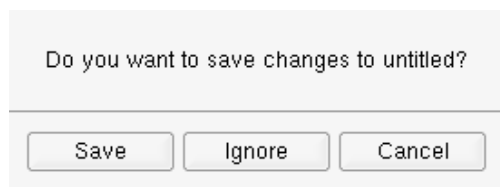

Figure 2.22: Save Changes dialog
- **Build New** starts a new build project. If the currently edited structure has been modified since the last save operation, you are presented with the **Save Changes** dialog, Figure 2.22 . The **Save** button in the dialog saves the
- **Quit** exits **PQSMOL**. If the currently edited molecule has been modified since the last save operation, you are presented with the **Save Changes** dialog, Figure 2.22.